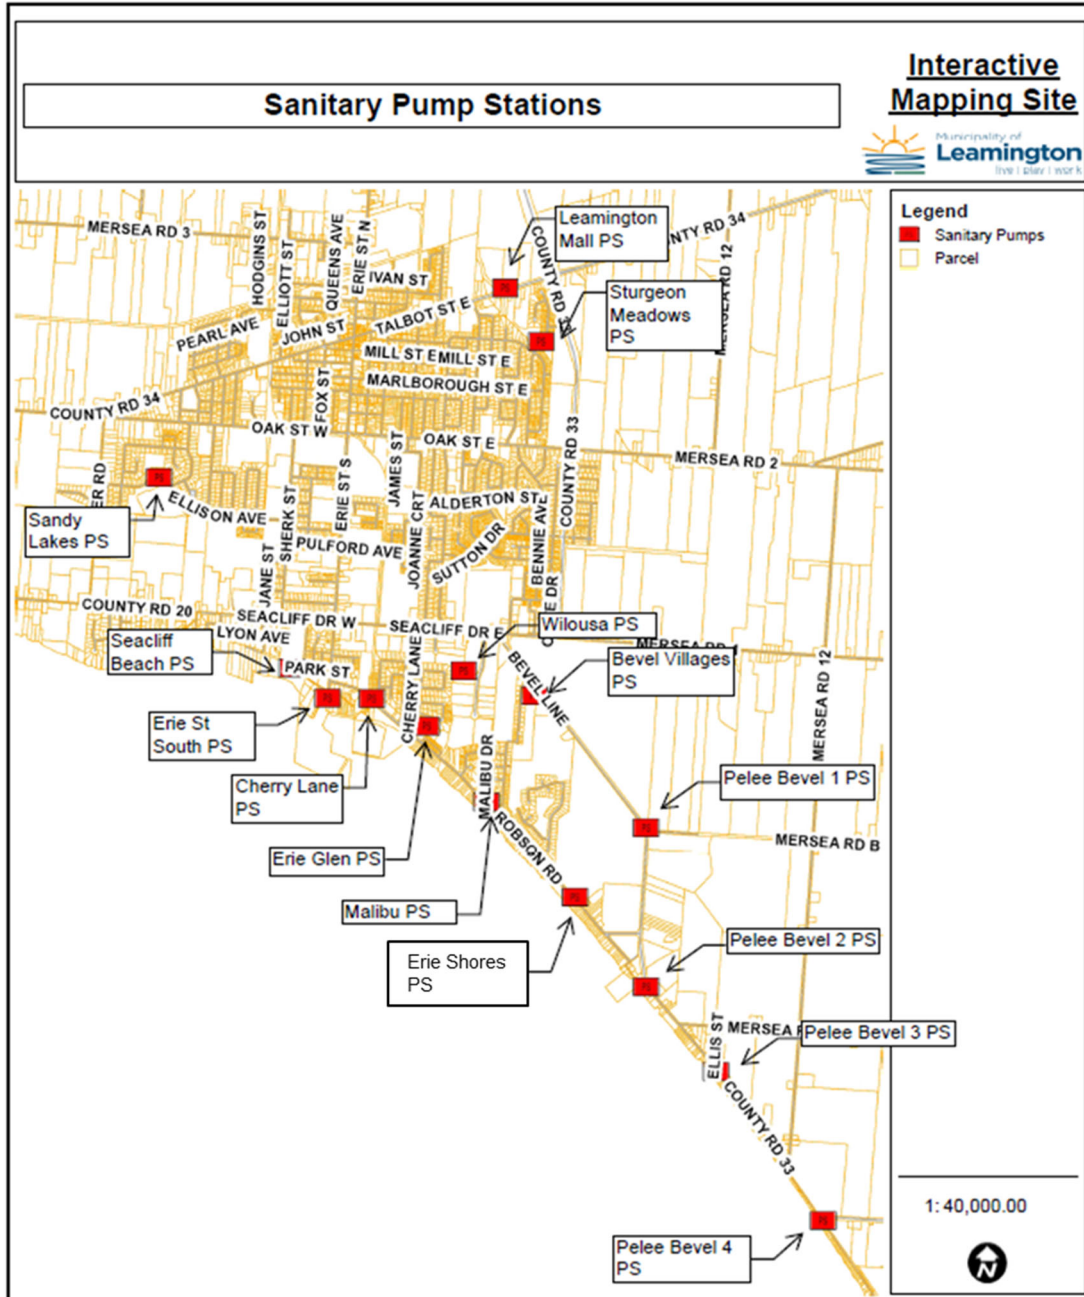

Figure 2: Sanitary Pump Station Locations
The sewage system includes fifteen (15) sanitary pump stations as shown in Figure 2. Depending on service area and design flows, sanitary pump stations are equipped with either two pumps (1 duty and 1 standby) or three pumps (2 duty and 1 standby). All pump stations have a local control panel equipped with a PLC and communicate to the LPCC via a cellular network. Pump station remote monitoring includes pump status, wet well levels, flows (where available) and alarms.